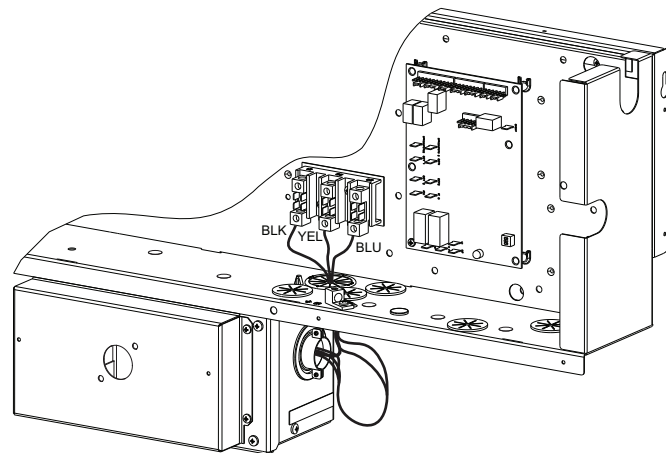

Fig. 28 — NFD Enclosure Location
1. Remove the control box access panel. The NFD enclosure is located below the control box (see Fig. 28).